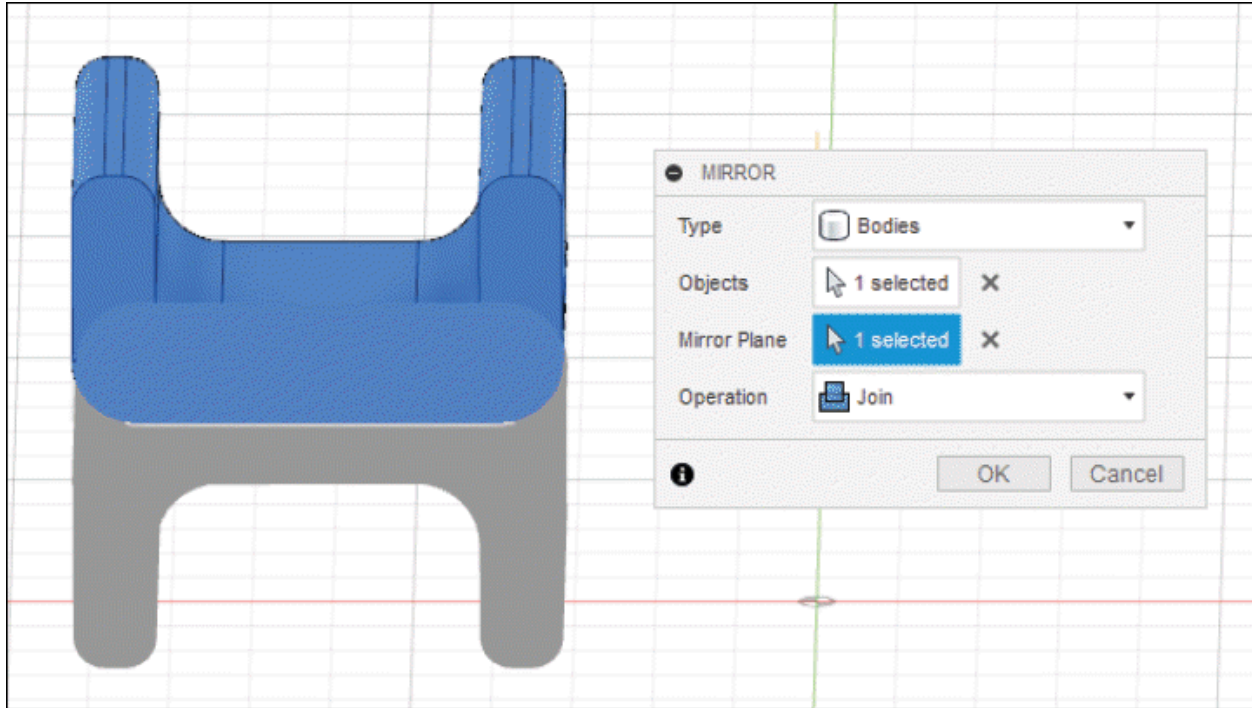

Figure-111. Preview of mirror on selection of plane
- Click on **Select** button of **Mirror Plane** section and select the plane/face to be used as mirror plane. Preview of mirror copy will be displayed; refer to Figure-111.